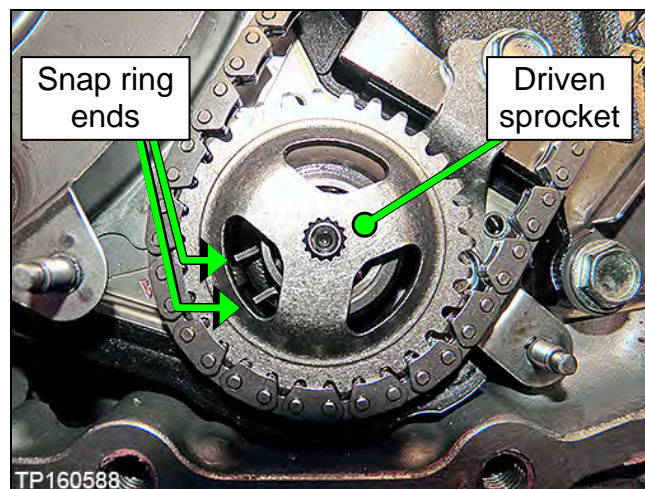

Figure 10I
- Expand the snap ring with a suitable tool, and then push down on the driven sprocket until it bottoms out (Figure 10I).